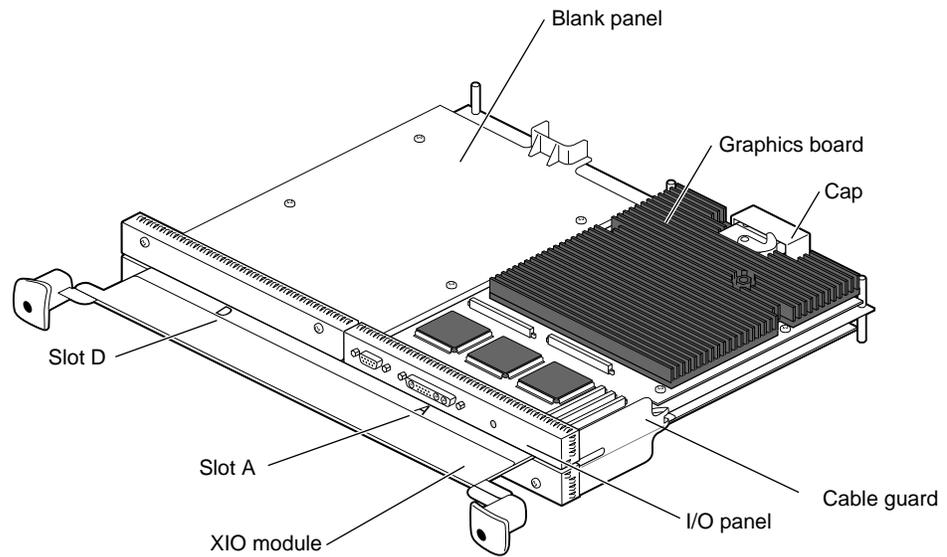

Figure 3-2 Identifying the Slots Used by an XIO Board
Graphics boards may be in one slot (A) or two (D and A). Figure 3-2 shows the OCTANE/SI graphics board in Slot A.